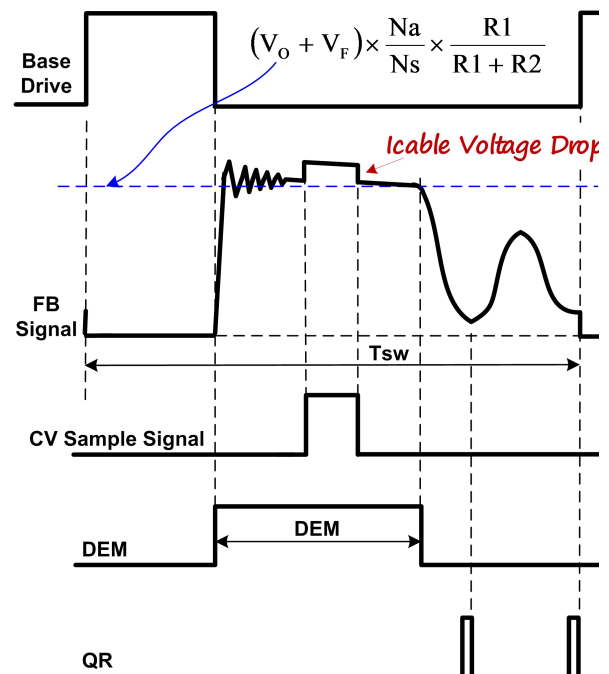

Fig.2
In Primary Side Regulation (PSR) control, the output voltage is sensed on the auxiliary winding during the transfer of transformer energy to the secondary. Fig.2 illustrates the timing waveform of CV sampling signal, demagnetization signal (DEM) and quasi-resonant (QR) trigger signal in DP2525G. When the CV sampling process is over, the internal sample/hold (S&H) circuit captures the error signal and amplifies it through the internal Error Amplifier (EA). The output of EA is sent to the Quasi Resonant PSR CV Modulator (QR-CVM) for CV regulation. A valley is selected to trigger new PWM cycle by the output of the QR-CVM block, which is determined by the load. The internal reference voltage for EA is trimmed to 2V with high accuracy.
During the CV sampling process, an internal variable current source is flowing to FB pin for Cable Drop Compensation (CDC). Thus, there is a step at FB pin in the transformer demagnetization process, as shown in Fig.2. Fig.2 also illustrates the equation for “demagnetization plateau”, where V_o and V_F is the output voltage and diode forward voltage; $R1$ and $R2$ is the resistor divider connected from the